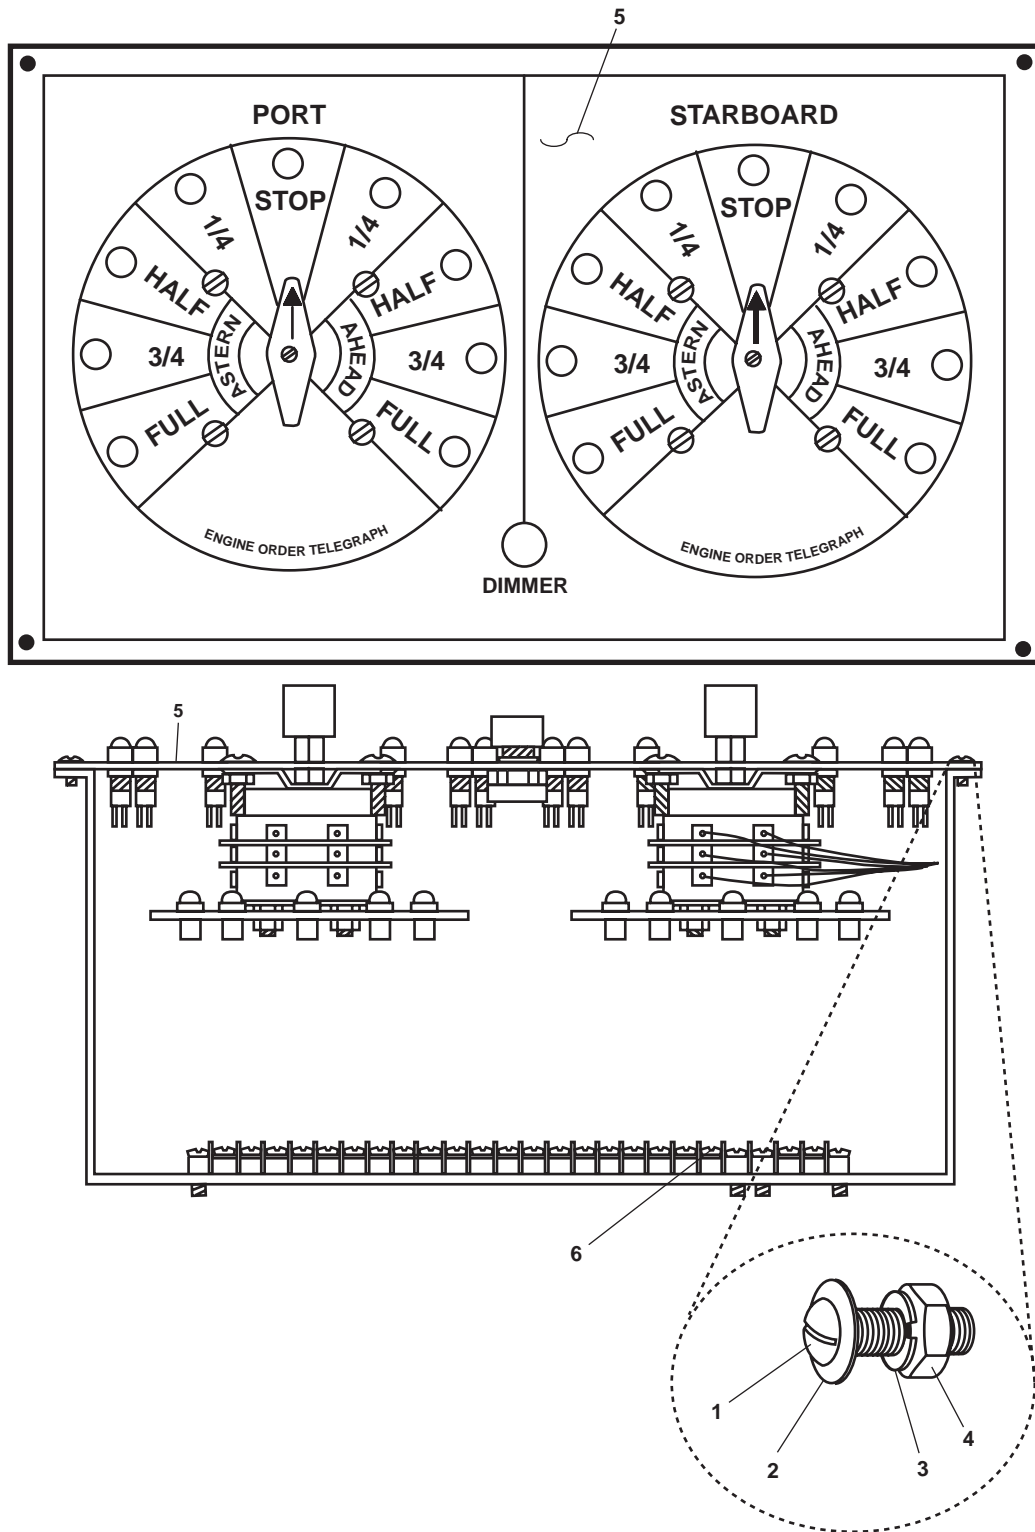

Figure 1. EOT Panel Removed
1. Remove the four screws (figure 1, item 1), four flat washers (figure 1, item 2), four lockwashers (figure 1, item 3), and four nuts (figure 1, item 4), and remove the Engine Order Telegraph (EOT) panel (figure 1, item 5) from the console. Discard the lockwashers.
2. Use a multimeter to check for voltage at the terminal board (figure 1, item 6). If voltage is present, ensure that the proper circuit breaker is set to OFF, locked out, and tagged out (FM 55-502). If no voltage is present, continue with this procedure.
3. Label and remove the wires from the terminal board (figure 1, item 6).
1. Install the wires on the terminal board (figure 1, item 6) using the labels from step 3 of Removal as a guide. Discard the labels.
2. Install the EOT panel (figure 1, item 5) in the console. Secure it with the four screws (figure 1, item 1), four flat washers (figure 1, item 2), four new lockwashers (figure 1, item 3), and four nuts (figure 1, item 4).